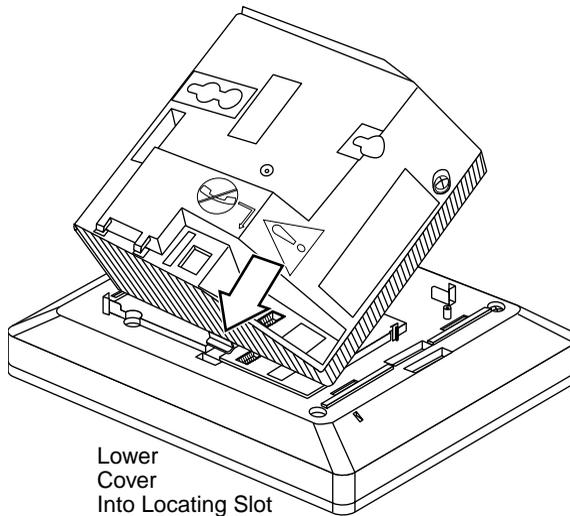
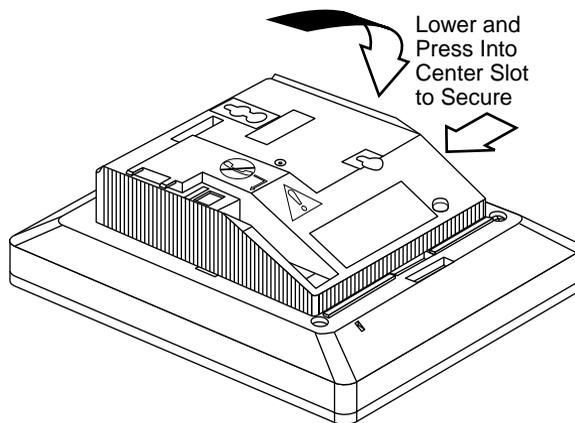
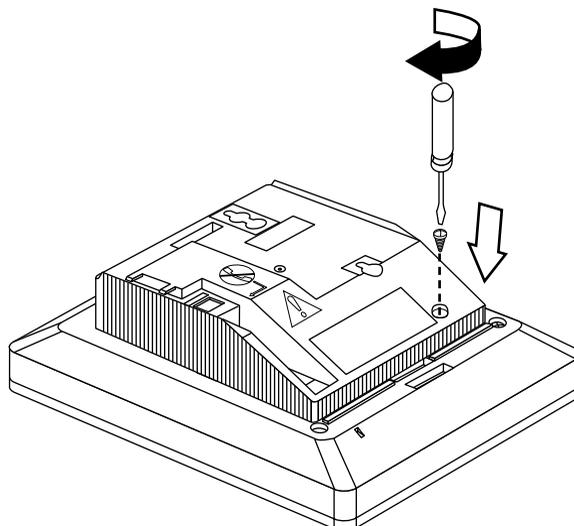

Figure 3-12. Placing the Module Cover into the Locating Slot
Figure 3-13. Lowering and Locking the Module Cover
Figure 3-14. Replacing and Tightening the Module Cover Screw
- ▶ **8. To replace the module cover, see Figure 3-12, Figure 3-13, and Figure 3-14.**